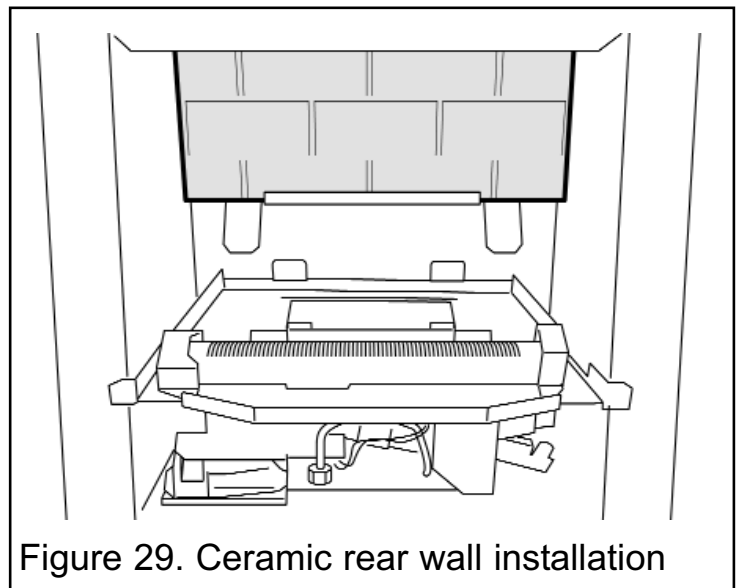

Figure 29. Ceramic rear wall installation
**1.** Fit the ceramic rear wall inside the "L" bracket on the back face of the burner compartment. Push the ceramic wall flat against the back face of the burner compartment (See figure 29).